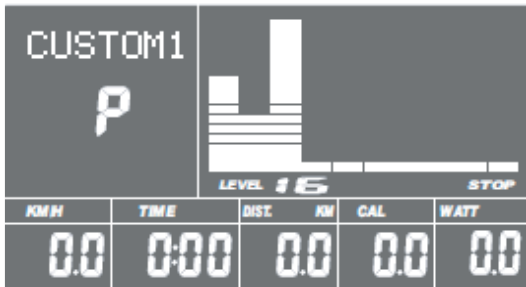

fig. 9
- The first resistance level will flash, press **UP** or **DOWN** to set the desired load resistance. Press **ENTER** to confirm. Then repeat above operation to set the resistance from 2 to 10. (See fig. 9)